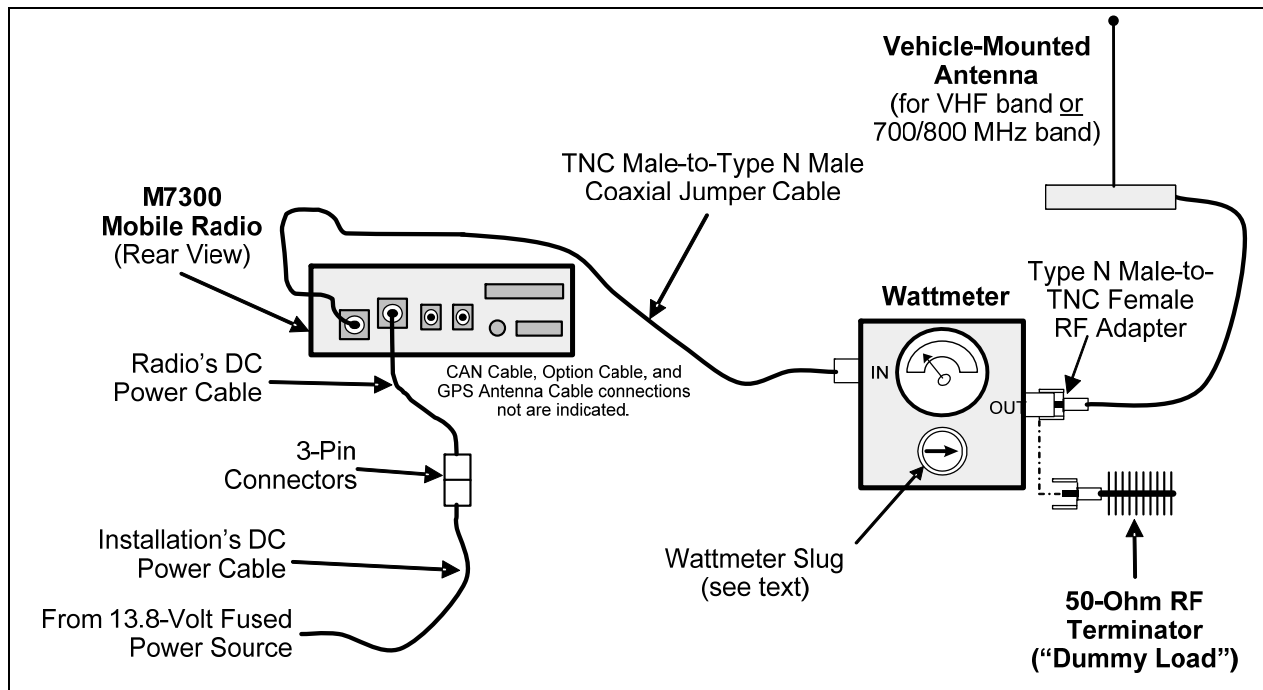

Figure 14-1: Wattmeter Connections for Antenna System Tests
1. Using the Type N male to TNC male RF coaxial jumper cable, connect the radio's antenna connector to the wattmeter's input connector. Refer to Figure 14-1 as necessary.
1. Connect the antenna cable from the vehicle-mounted antenna to the wattmeter as shown in Figure 14-1.